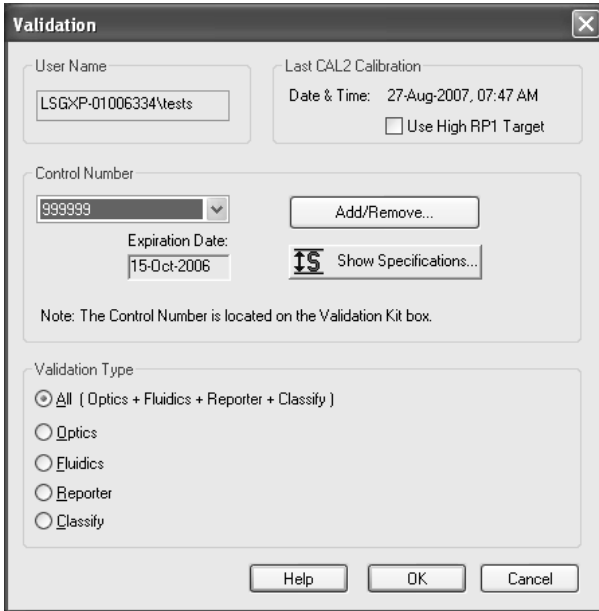

Fig. 1A. Main validation dialog.
5. In Bio-Plex Manager software, select **Instrument** from the main menu. Select **Validation** from the pull-down menu. The following dialog box will appear (Figure 1A):